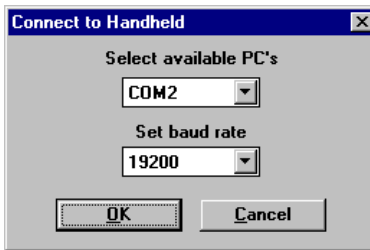

Figure 5.3: Connect to Handheld Dialog Box
1. Click on **Handheld**. The Handheld menu appears, as shown in Figure 5.3.
2. Choose **Connect** from the **Handheld** menu or click the **Connect** button. The Connect to Handheld dialog box opens, as shown in Figure 5.3.